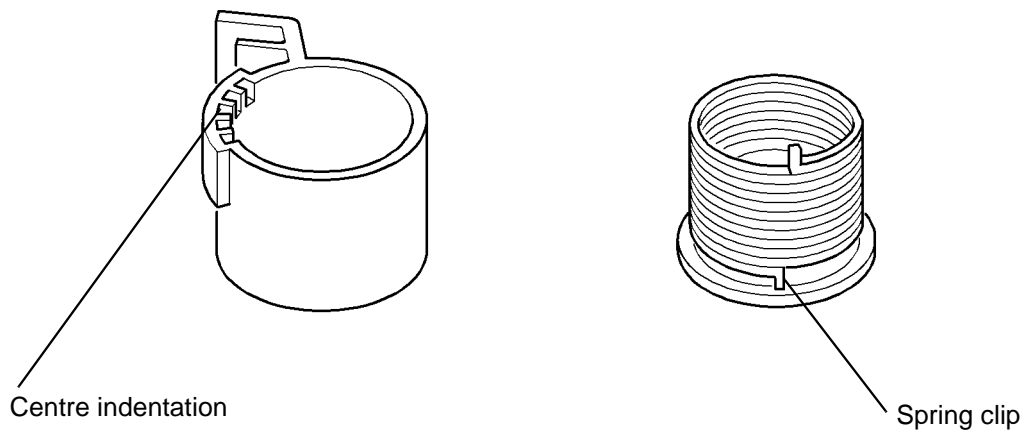

Figure 4 Friction bearing spring clip
1. Re-position the spring clip in the centre of the 5 indentations, Figure 4.